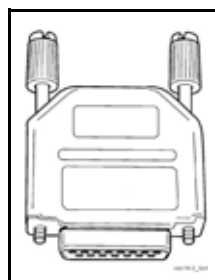
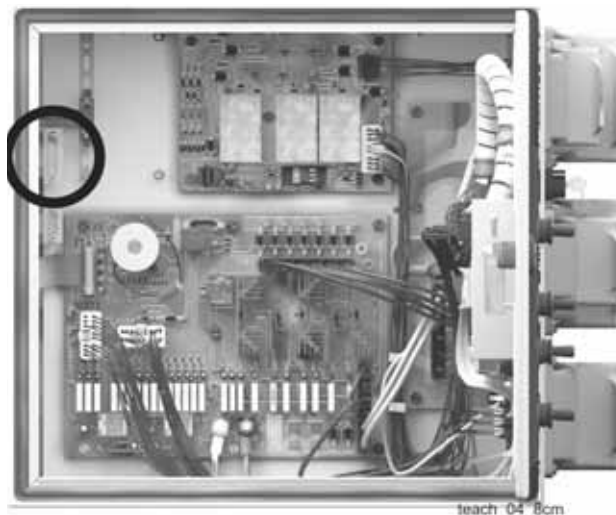

Fig. 99 Teach key
Fig. 100 Slot for the teach key
- Insert teach key (Fig. 99) into its slot at the top left of the switch cabinet for the VECTOR control system (Fig. 100) and screw together.